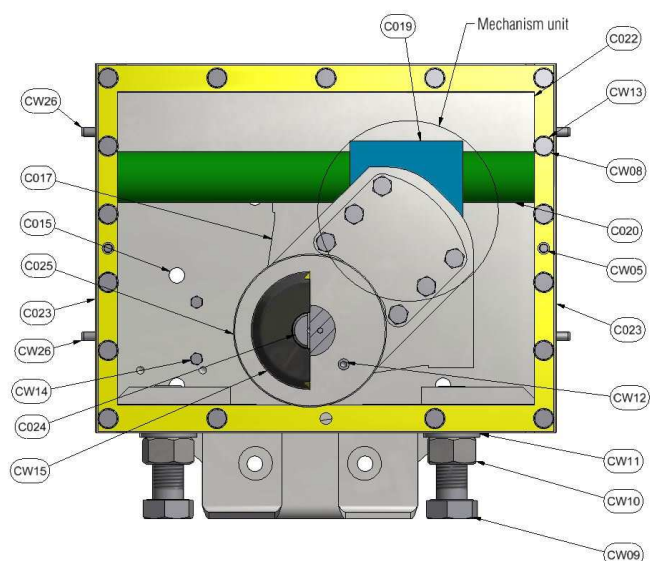

Figure 3- PART NUMBER - Central stroke Adj - STD
for actuator with central stroke adj Figure 3, unscrew the both nuts (CW10) and completely unscrew both the stop cap screws (CW09).
- 7.1.1.7. Remove the position indicator from the Central Module unscrewing the screws (CW12 - Figure 3)
- 7.1.2.2. for actuator with central stroke adj Figure 3, unscrew the both nuts (CW10) and completely unscrew both the stop cap screws (CW09).
- 7.1.2.3. Remove the position indicator from the Central Module unscrewing the screws (CW12 - Figure 3).